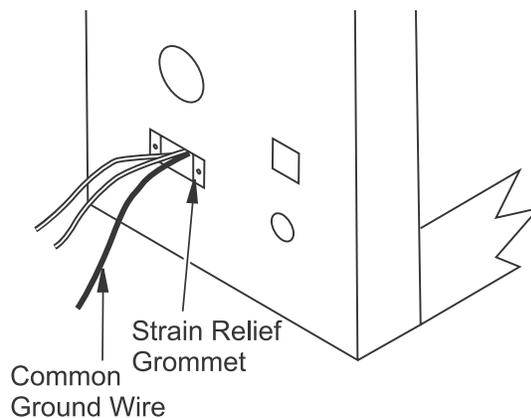

Figure 11 - Wiring Through Outer Surround
2. Connect the 18 ga. wires coming through strain relief grommet on side of appliance's outer wall to standard household 120 VAC current through the wall switch (not supplied), as shown in Figure 11. For more detail, see *Wiring Diagrams*, page 16.